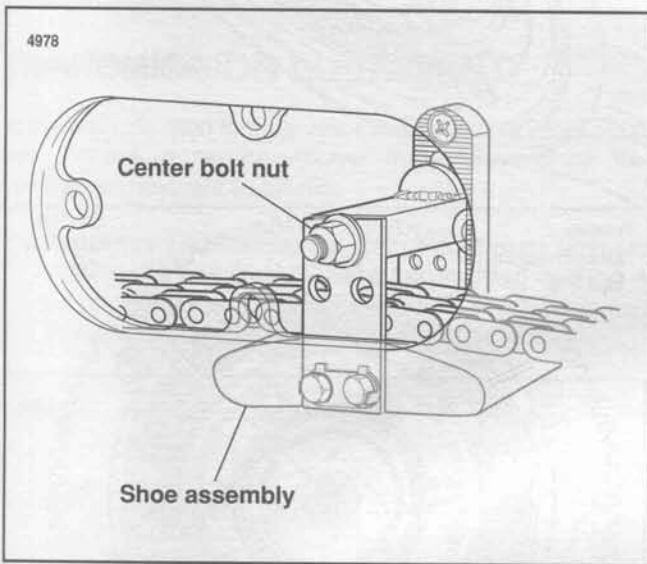

Figure 1-3. Primary Chain Adjustment
- See Figure 1-3. If freeplay adjustment is required, loosen, but do not remove, the center bolt nut and move the shoe assembly up or down to obtain the specified free play. Tighten center bolt nut to 21-29 ft-lbs (28-39 Nm). Replace the primary chain if it is worn to the point where it cannot be properly adjusted.